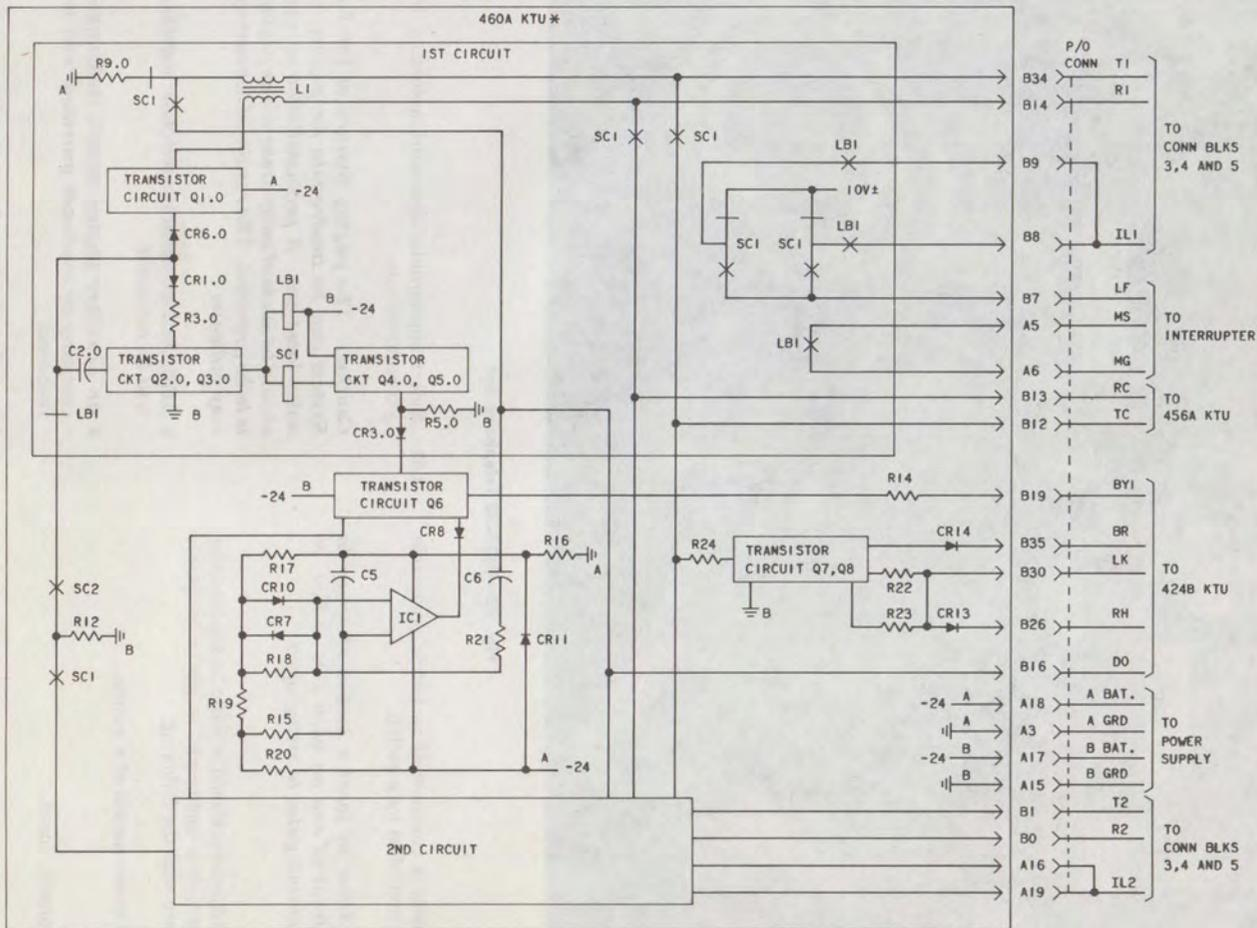

Fig. 21—Condensed Functional Schematic of 460A KTU (2-Path Intercom Access Circuit)
2.25 The 460A KTU (Fig. 21) is an 8-inch unit that contains two separate intercom paths. Path selection is based on operation of the associated intercom button on the key telephone sets. The unit also provides dial tone, seizes the selector,